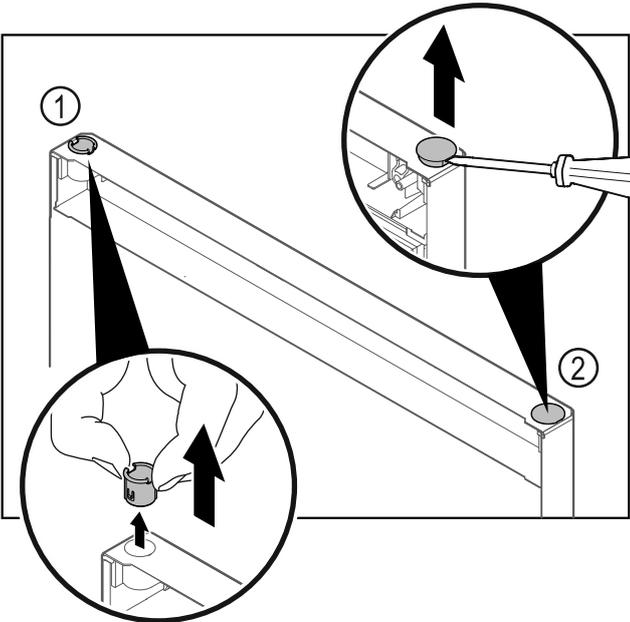

Fig. 27
- ▶ Pull out the hinge bushing Fig. 27 (1) with your fingers.
- ▶ Carefully lift the cover plug Fig. 27 (2) with a slotted screwdriver and pull it out.